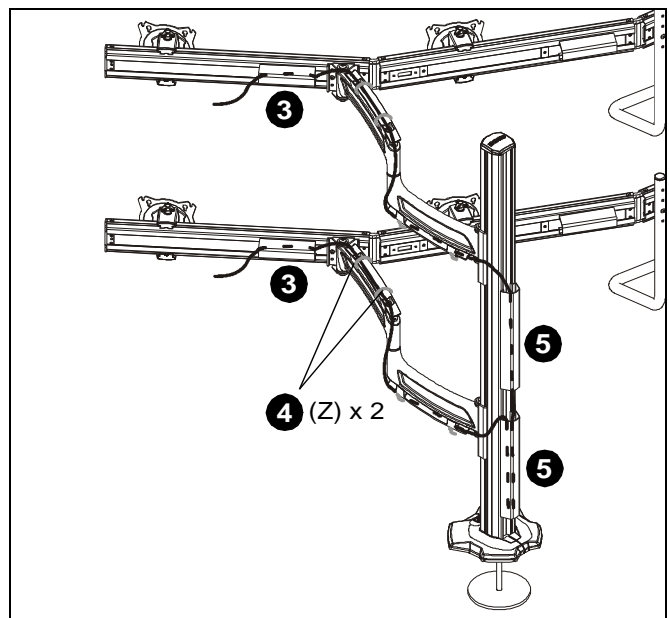

Figure 23
3. Route cables from display through cable management covers (Q) on array arms as desired. (See Figure 23)
4. Route cables along swing arms, using cable ties (Z) to secure cables to arms. (See Figure 23)
5. Route cables through cable management covers (P or Q) on columns as desired. (See Figure 23)